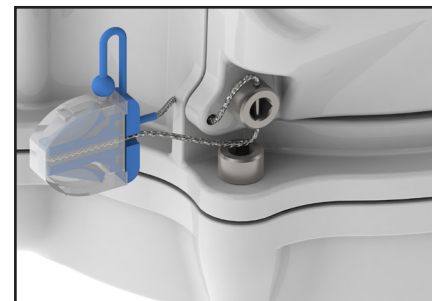

Figure 6. Tamper evident seal on battery cover
1. Thread the wire end through the security hole near the battery cover and through the hole in the screw as shown in Figure 6.